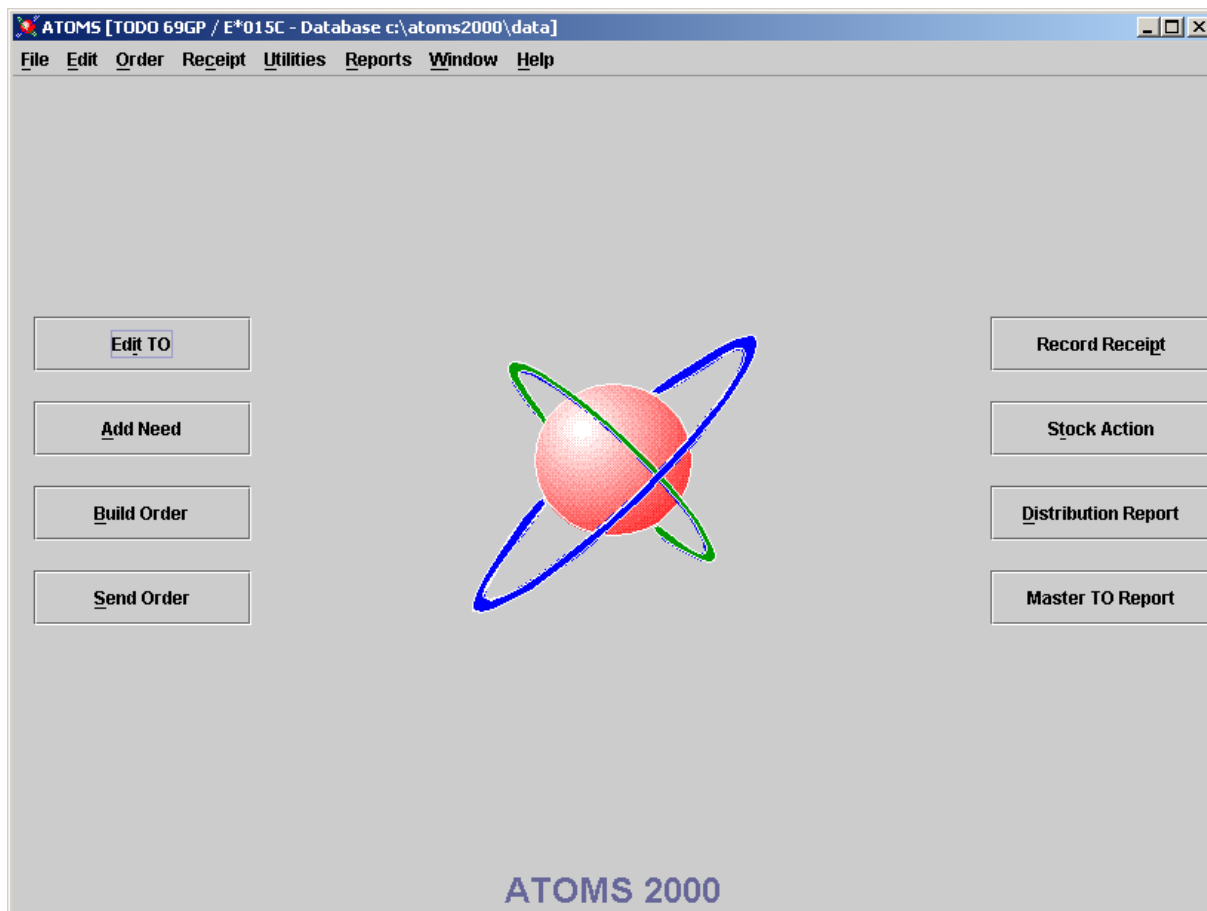

Figure 2-2. Splash Screen for ATOMS 2000
- Splash Screen (Figure 2-2)—this is sometimes called the Main Menu, although it is not really a menu. It appears every time the ATOMS 2000 program is run. The title bar (top line on the window) contains not only the name of the program (“ATOMS”), but also TODO information and the pathname and location for the database files. It has eight shortcut buttons representing functions that are used most often. It also has a Menu Bar with menu picks of **File**, **Edit**, **Order**, **Receipt**, **Utilities**, **Reports**, **Window**, and **Help**. These menu picks allow the user to access all the functions that ATOMS 2000 performs.